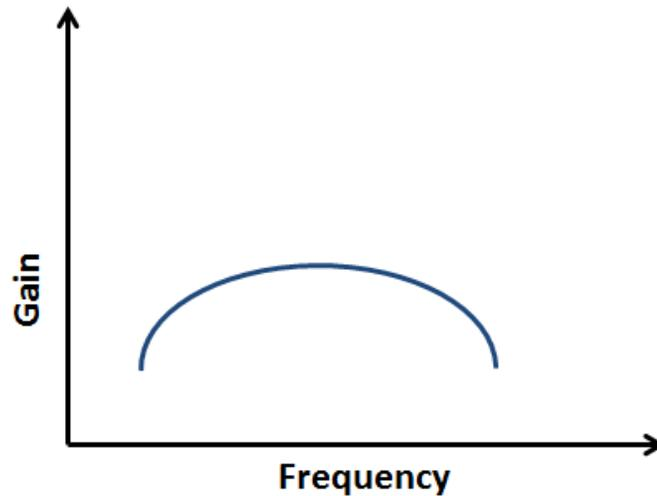

Figure 3. Plot a graph between Voltage Gain vs Frequency
8. Note down the observation in table no. 2 and plot a graph between Voltage Gain vs Frequency as shown in Figure 3.